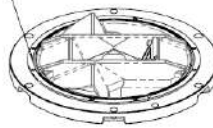

Figure 5-25
- Wash the waste in the seal groove with water or ethyl alcohol to keep the seal groove clean (see Figure 5-25);